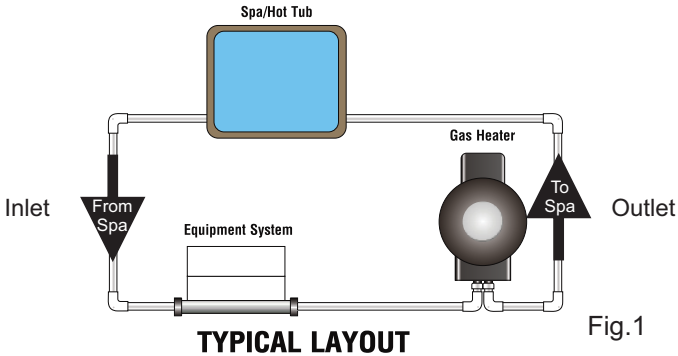

Fig.1
**Warning:** Gas heaters **MUST** be installed **AFTER** the control system as shown below. Fig.1